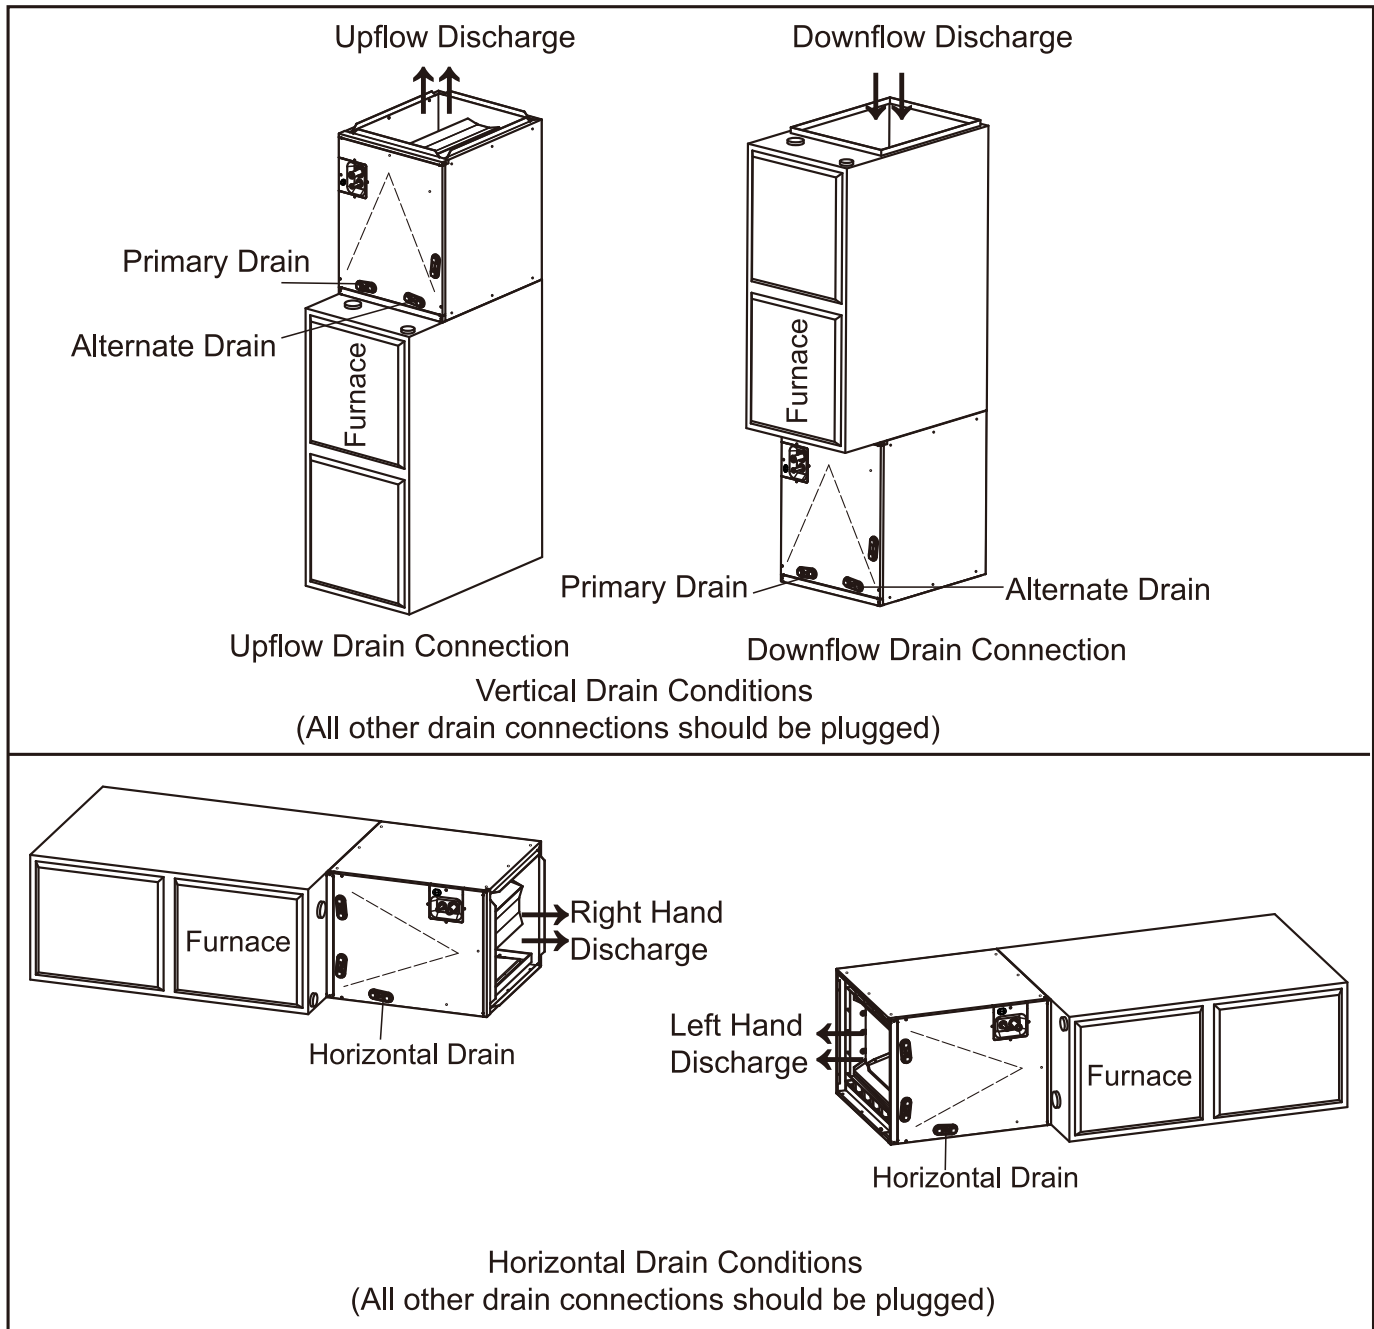

Fig. 3-1 INSTALLATION OF CASED COIL
1. See Fig. 3-1 for coil installation and drain connection.
- C. Ensure that the coil is leveled well and seal the gap between coil and furnace. See Fig. 3-1. In case that coil and furnace sizes are not matched, use proper size of sheet metal or other material to fill the gap and seal the gap to prevent air leak.